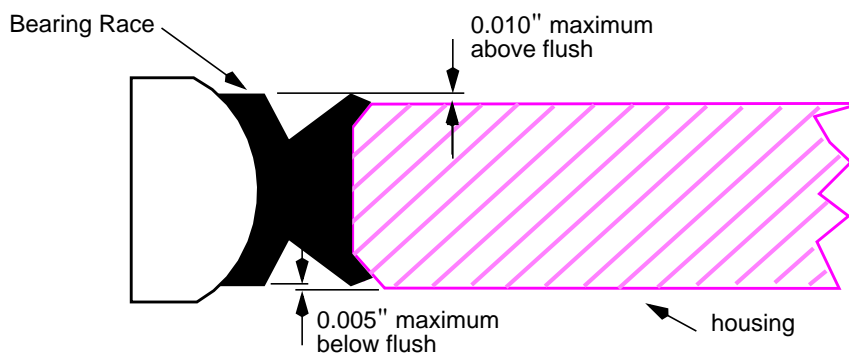

Figure 6 - Flushness Requirements
6.2.3 On both sides, the bearing race shall be no more than 0.005" below flush to no more than 0.010" above flush with the housing as shown in Figure 6.